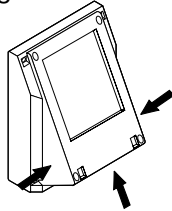

fig. 5
- Drill hole for the PG connection at a suitable point in the housing (fig. 5) and mount the PG connection on the housing.